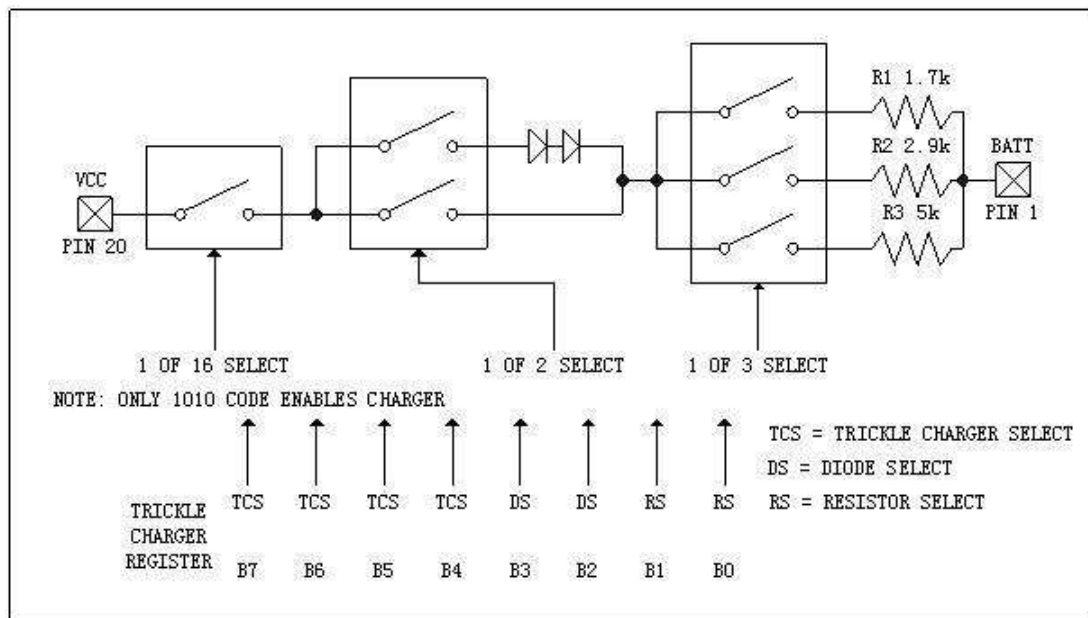

Figure 3 Trickle charger functional schematic
The trickle charge register controls the trickle charger characteristics of the PT7C4910. The trickle charger functional schematic (Figure 3) shows the basic components of the trickle charger. Table 6 details the bit settings for trickle charger control. Trickle charge selection (TCS) bits D7–D4 control the selection of the trickle charger. In order to prevent accidental enabling, only a pattern of 1010 enables the trickle charger. All other patterns disable the trickle charger. The PT7C4910 powers up with the trickle charger disabled. The diode select (DS) bits (D3–D2) select whether two diodes or no diodes are connected between VCC and BATT. If DS is 10, no diode is selected; if DS is 01, two diodes are selected. If DS is 00 or 11, the trickle charger is disabled independent of the state of the TCS bits. The RS bits (D1–D0) select the resistor that is connected between VCC and BATT. If both RS bits are set to zero, the trickle charger is disabled, regardless of any other bit states in the trickle charger register. RS bits set to 10 select a 1.7K, 01 selects 2.9K, and 11 select 5K.